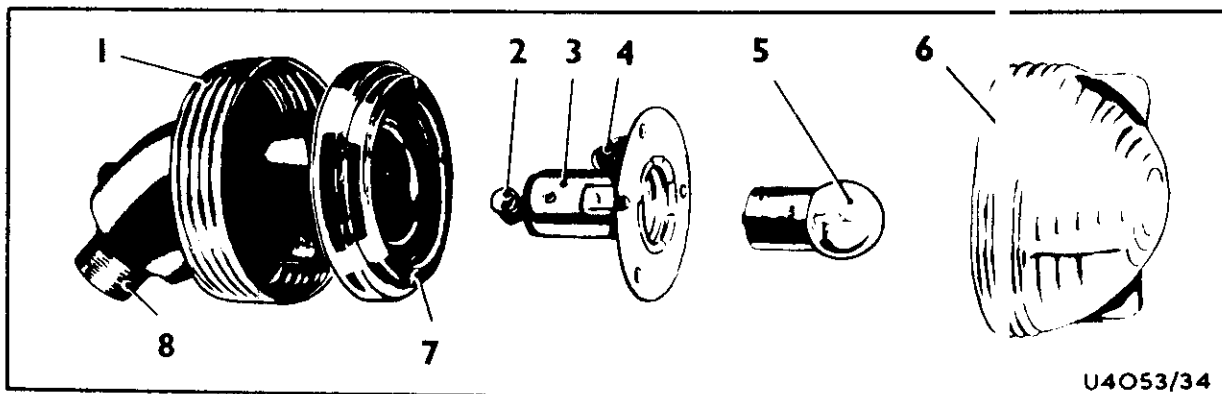

Fig.7. Sidelight
Side and turn lights (Fig.7)
45. To gain access to the lamp of the tail/stop light, the lens must be unscrewed from the mounting plate. This is similar to (Fig.7), except that the lamp is a double contact index pin type and can be inserted in one position only. Ensure that the lens is screwed firmly into position after lamp replacement.